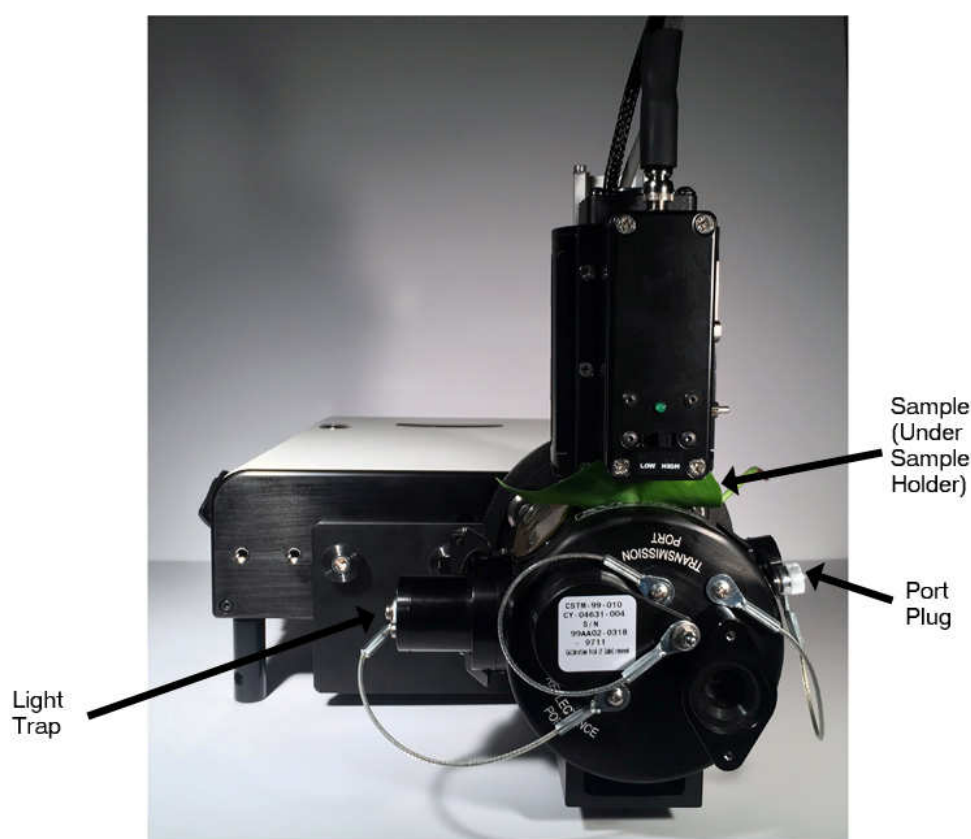

Figure 19: Sample reflectance measurement configuration
The process of setting up this configuration begins with the process in section 9.1 above. The sample is now removed from the reflectance port and placed in the transmission port. This configuration is shown below in Figure 19.
2. Gently pull the lamp / sample holder away from sphere, and place the sample in front of the transmission port as shown in Figure 19. Release the lamp / sample holder and move the lamp back to its locked position.